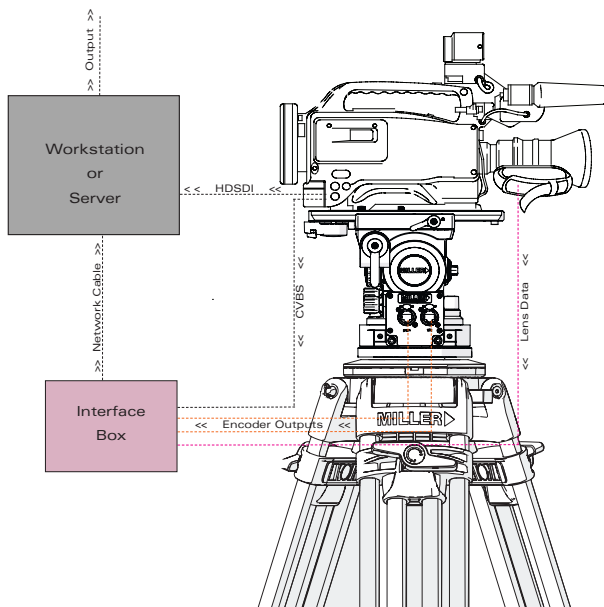

Fig. 7
1. The ArrowFX, coupled with a camera, can transit positional data of camera feed to allow for augmented/virtual feed overlays (fig. 7).